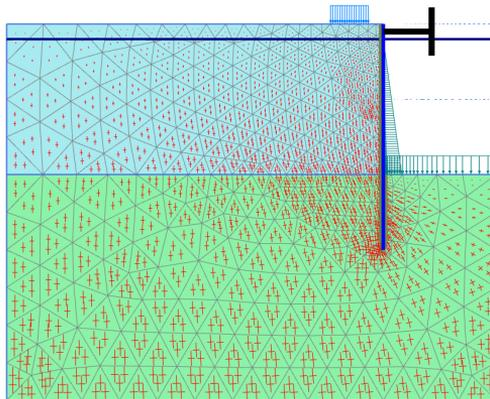

Figure 2.14 Principal stresses after excavation
- In the *Stresses* menu point to the *Principal effective stresses* and select the *Effective principal stresses* option from the appearing menu. The plot shows the effective principal stresses at the three middle stress points of each soil element with an indication of their direction and their relative magnitude. Note that the *Center principal stresses* button is selected in the toolbar. The orientation of the principal stresses indicates a large passive zone under the bottom of the excavation and a small passive zone behind the strut (Figure 2.14).